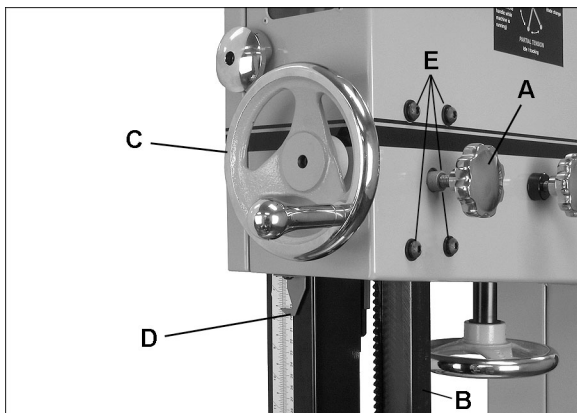

Figure 29
Refer to Figure 29.
6. If guide post does not go straight up and down (blade begins deflecting when guide post is raised), slightly loosen the four screws (E, Figure 29) and adjust guide post assembly as needed.
7. When finished adjusting, securely tighten the four screws (E).